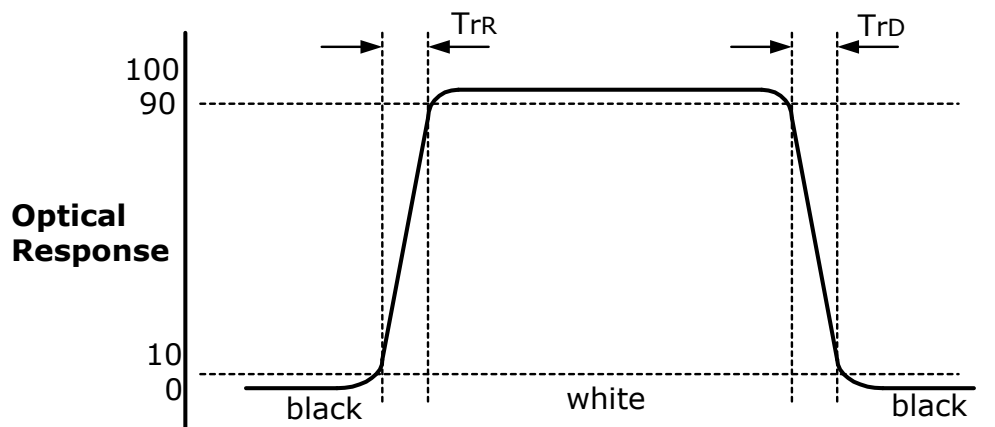

FIG. 4 Response Time
4. Response time is the time required for the display to transition from black to white (Rise Time, Tr_R) and from white to black (Decay Time, Tr_D). For additional information see FIG 4.